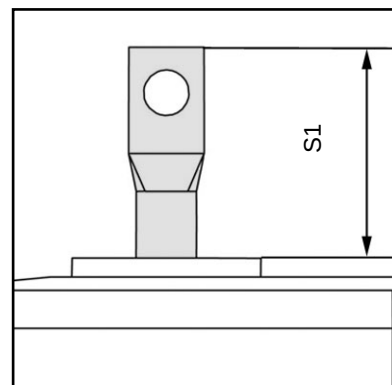

Fig. 8:
- Measure S_1 (Fig. 8) with brake closed.
- Turn Nut (3.14) **clockwise** until the piston rod of the thruster (Fig. 8) has reached the necessary value for S_1 (table 1 for inch / table 2 for mm).
- Turn Nut (3.14) **counter clockwise** until the piston rod of the thruster (Fig. 8) has reached the necessary value for S_1 (table 1 for inch / table 2 for mm).